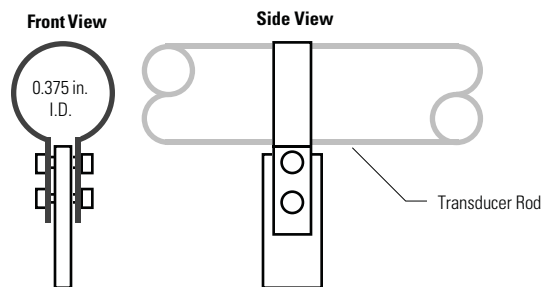

Figure 2-4
2. Install the permanent magnet over the LDT rod. Mount the permanent magnet to the movable device whose displacement will be measured. To minimize the effect of magnetic materials (i.e. iron, steel, etc.) on the magnetic field of the permanent magnet, ensure the minimum spacing requirements are met as shown in Figure 2-4. (Any non-magnetic materials can be in direct contact with the permanent magnet without affecting performance.)
Loop supports are fabricated from non-ferrous materials, thin enough to permit free movement of the magnet. Loop supports are recommended for straight transducers. They may be used alone or with channel supports. Figure 2-4 illustrates the fabrication of a loop support.